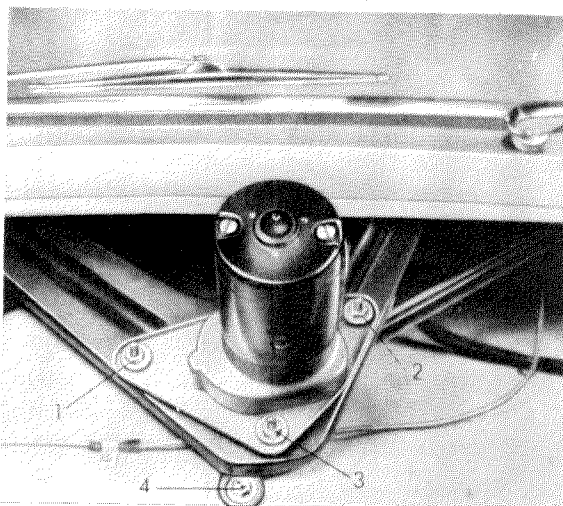

Fig. 82 — 4/1
3. Detach the drive rod (5) at the motor and disconnect the feed cable (Fig. 82 — 4/1).
4. Unscrew the 3 hexagon nuts (1), (2) and (3) for fixing the motor (Fig. 82 — 4/1).